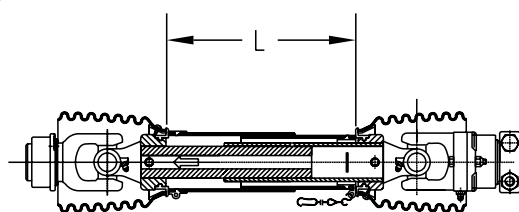

FIG. 4-13
1. Fully collapse PTO shaft and measure length "L" (FIG. 4-13).